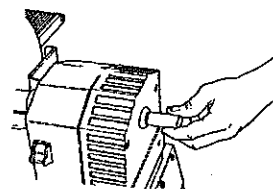

Fig.H-1
1. Turn the speed dial to its slowest setting. Turn off and unplug the Power Station. Remove the safety key (35) from the switch.
2. Slide the carriage (21) to the left and lock it.
3. Make sure the outer shaft cover (40) is installed over the outer shaft of the Power Station. See Fig.H-1.